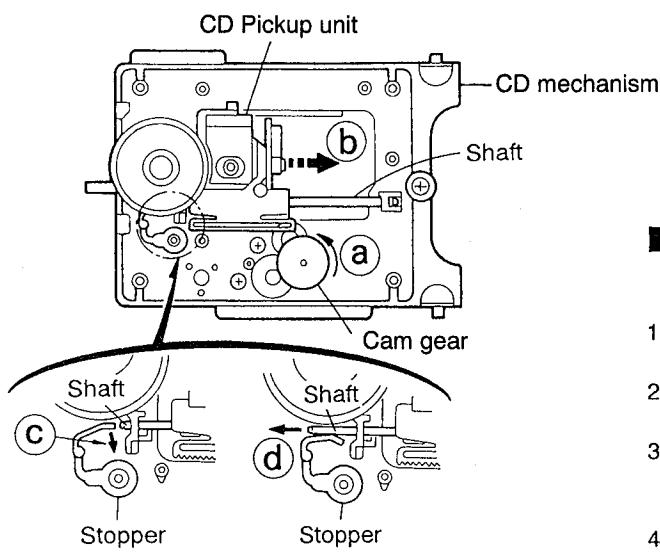

Fig.5-47
## ■ Removing the CD pickup unit (See Fig.5-47)
1. Move the cam gear in the arrow direction ④. Then, the CD pickup unit will be moved in the arrow direction ⑤.
2. According to the above step, shift the CD pickup unit to the center position (See Fig.5-47).
3. While pressing the stopper retaining the shaft in the arrow direction ③, pull out the shaft in the arrow direction ④ (See Fig.5-47).